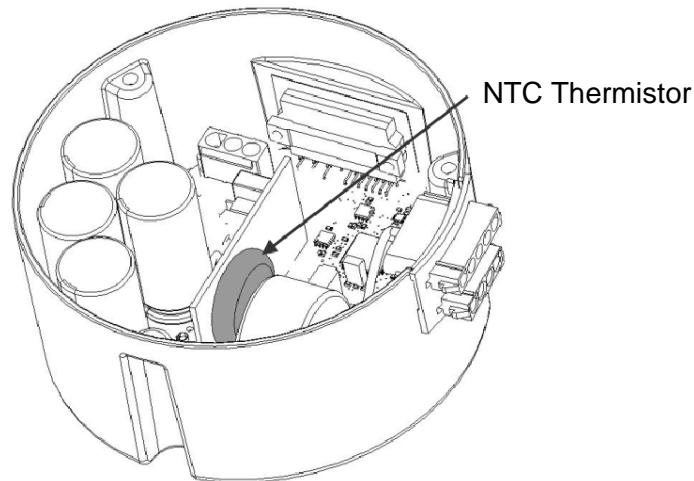

Figure 13
5. Inspect the NTC thermistor inside of control unit for any cracks or breakage [Figure 13].